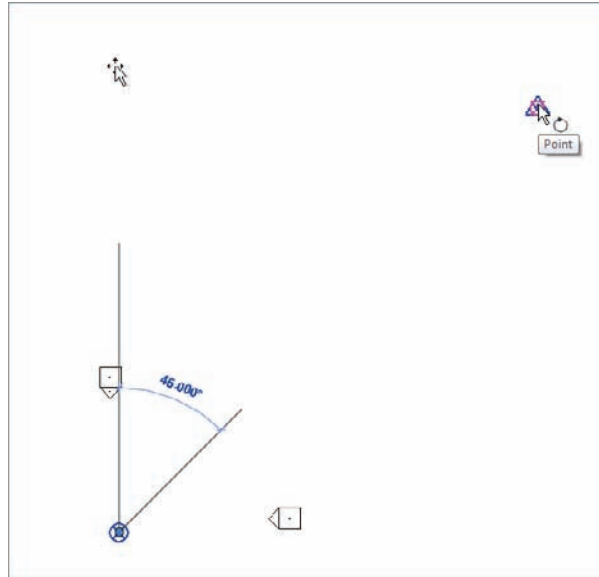

FIGURE 18.30 Finalizing the rotation
3. Pick the node on the Survey point, as shown in Figure 18.30.
4. Pick a second point at 45 degrees left (which lands you straight up—see Figure 18.30). Your site view is now facing true north, while all of your other views are project north.